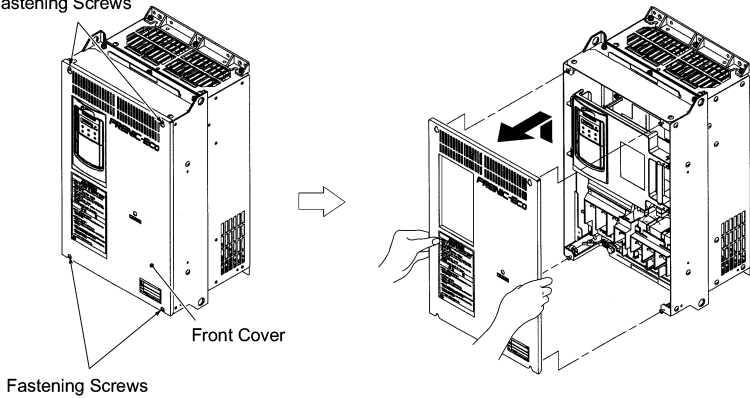

Figure 2.8 Removing the Front Cover (FRN37F1S-2J)
(2) For inverters with a capacity of 37 kW to 160 kW
- ① To remove the front cover, loosen the four fastening screws on it, hold it with both hands, and slide it upward. (Refer to Figure 2.8.)
- ② Put the front cover back in reverse order of the ①. Make sure to properly match the position of the screw holes on both of the front cover and inverter case.